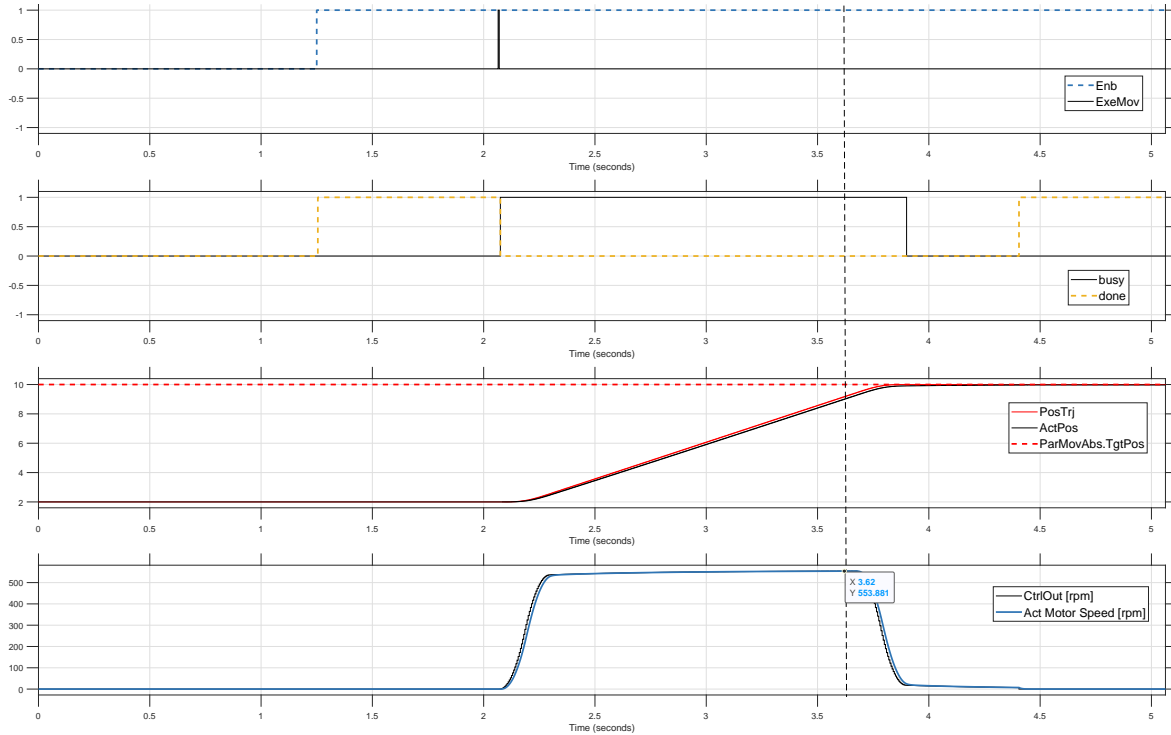

Figure 22: Adjusted Feedforward parameters ($K_p = 200$, $K_i = 0.0$, $GainFwdSpdCtrl = 104.1$, $GainBwdSpdCtrl = 0.0$, Window = 0.2mm, TuneTime = 0.3s)
the example shown in figure 22. The $MaxSpdSetPnt$ was set to $5 \frac{mm}{s}$. The motor speed is 520.52rpm. The value for $GainFwdSpdCtrl$ is then calculated by
- Refine $GainFwdSpdCtrl$: Determine the positive feedforward gain again by observing the highest motor speed during the movement. Divide this by the set speed value ($MaxSpdSetPnt$) and update $GainFwdSpdCtrl$ with this value. See figure 22.